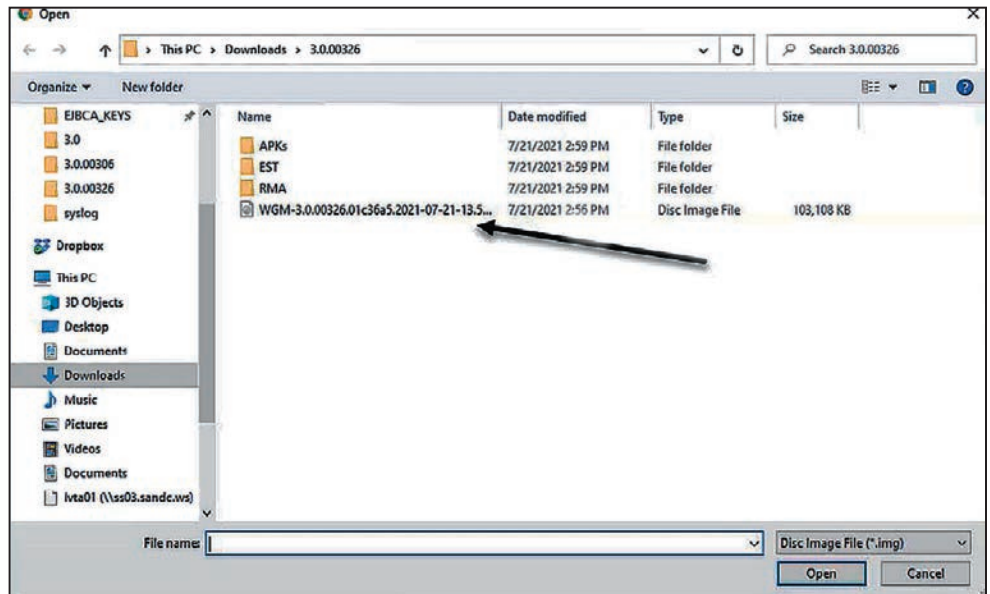

Figure 11. The Windows *Open* screen.
STEP 3. In the *Open* screen, navigate to and select the desired firmware file. Then, click on the **Open** button to begin the upload process. See Figure 11.